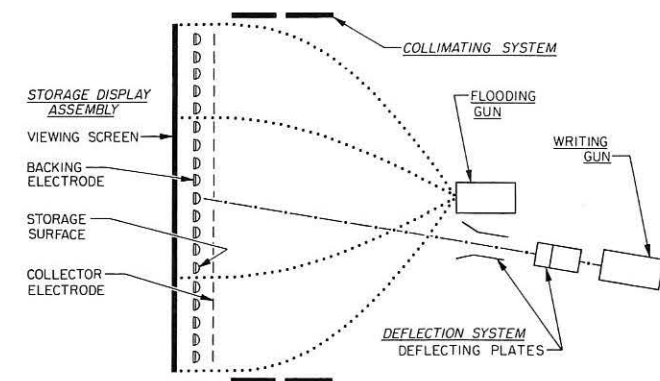

FIGURE 2: Basic storage tube structure.
Illustrated in Figure 2, Basic Storage Tube Structure, are the five components essential in producing a visible display: (1) the flooding gun, (2) collimating system, (3) writing gun, (4) deflection system, and (5) the storage display assembly.